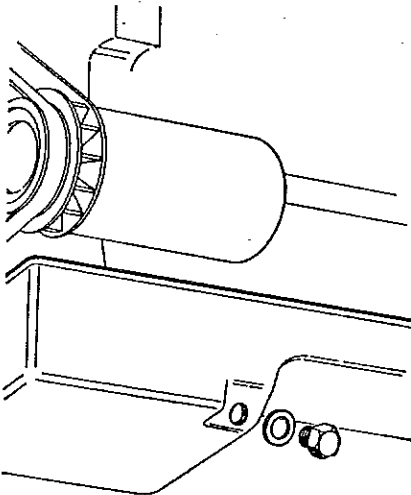

Fig. 20. Sump Drain Plug
1. Remove the sump drain plug and oil filler cap and allow oil to drain clear (fig. 20).